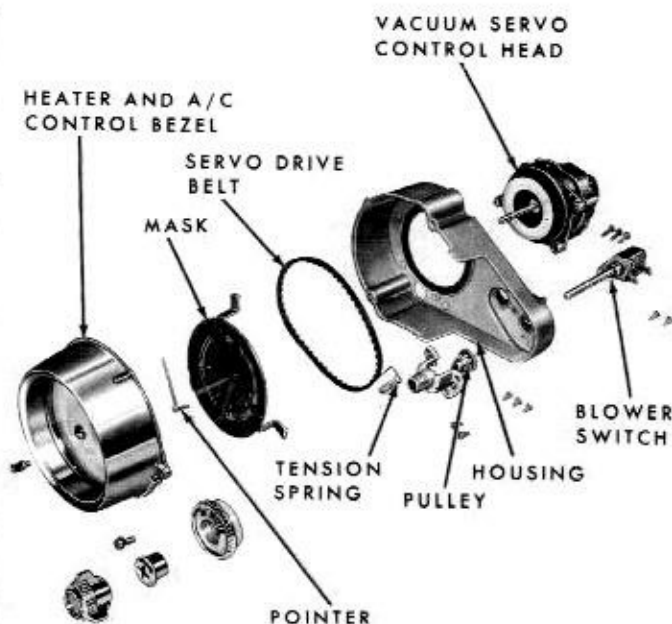

Fig. 3-10—Heater—Air Conditioning Controls—1960—(60L-8815)
6. The blower switch can be replaced by removing the 2 retaining screws from the rear of the housing. (See figure 3-10).